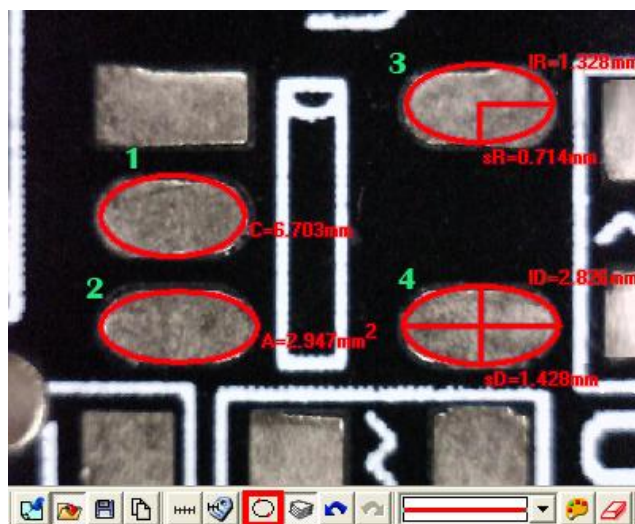

Fig 5-67 Oval
- (4) Oval: Measure an oval circle and use . Firstly choose Fig.5-67 Scale information setting dialog. To point any dot on an oval, pressing the left mouse button, and drag to fit the oval on an observation object. Same methods as Circle to be measured for 2 Points Circle and 3 Points Circle, 1st oval $C=6.703\text{mm}$, 2nd oval $A=2.947\text{mm}^2$, 3rd oval: $IR=1.328\text{mm}$, $sR=0.714\text{mm}$, 4th oval $ID=2.826\text{mm}$, $sD=1.428\text{mm}$.